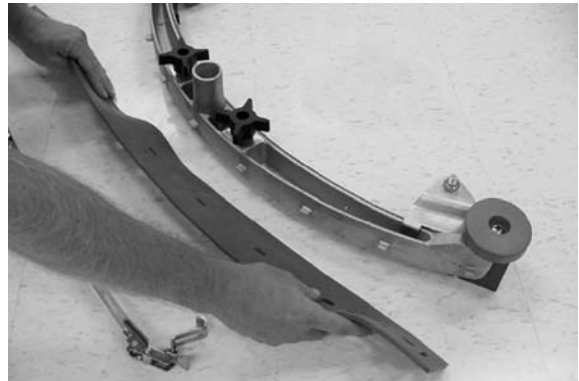

FIG. 38
3. Rotate the rear blade to a new wiping edge and reinstall the band (Figure 38).